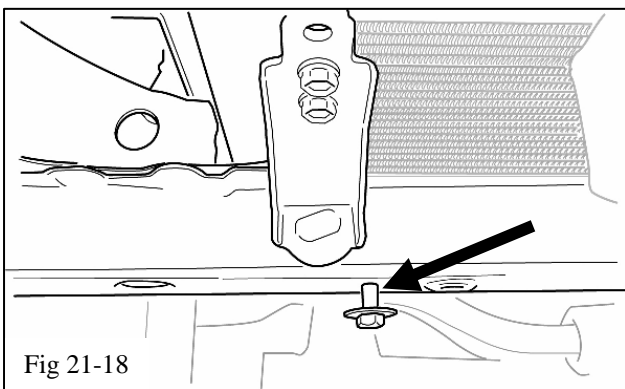

Fig 21-18
- (r) Install a M8 X 20mm bolt (A11) and flat washer (A9) in the lower radiator cross beam (Fig 21-18). Do not tighten.